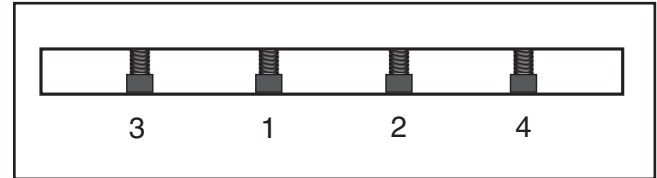

Figure 49. Clamp screw tightening sequence.
6. Install the knife and clamp in the cutterhead and slightly tighten each of the clamp screws in sequence, as shown in **Figure 49**.